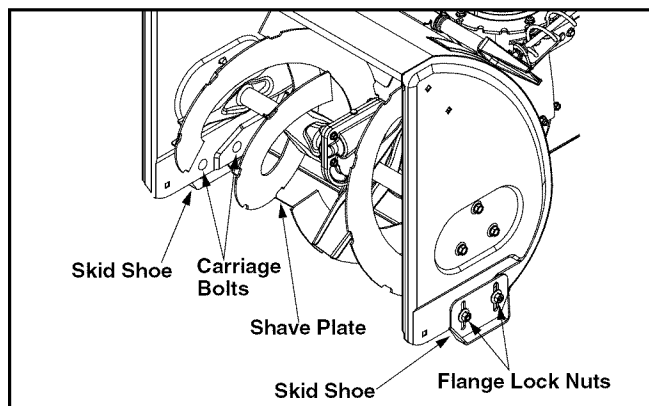

Figure 14
- To remove skid shoes, remove the four carriage bolts and flange lock nuts which attach them to the snow thrower. Reassemble new skid shoes with the four carriage bolts and flange lock nuts. See Figure 14.